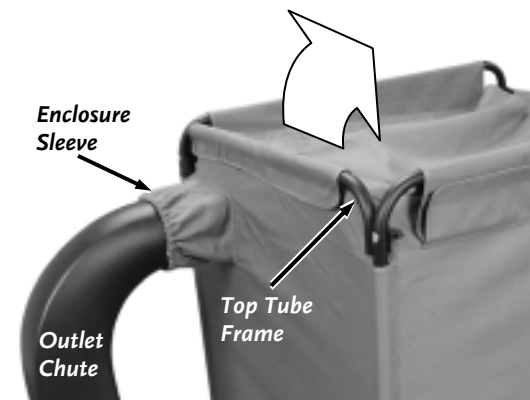

Figure 73
5. Pull the Dump Lever to tip the Collector back (Figure 72). Push against the Top Tube Frame to start the tipping (Figure 73). Help slide the Enclosure Sleeve off the Outlet Chute if necessary.